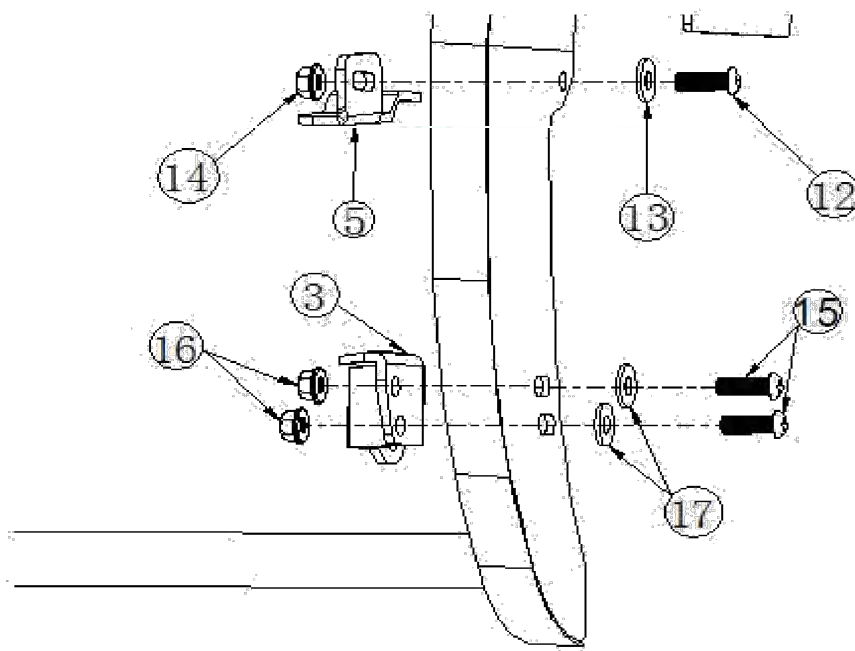

Figure 12
12. With assistance loosely install the Grille Guard Assembly (Item 1) onto the previously installed brackets. Loosely bolt the Top Support Straps (Items 5 & 6) onto the Grille Guard using the supplied M10 hardware (Items 12-14). Loosely bolt the Lower Mounting Brackets (Items 3 & 4) using the supplied M12 hardware (Items 15-17). See **Figure 12**.